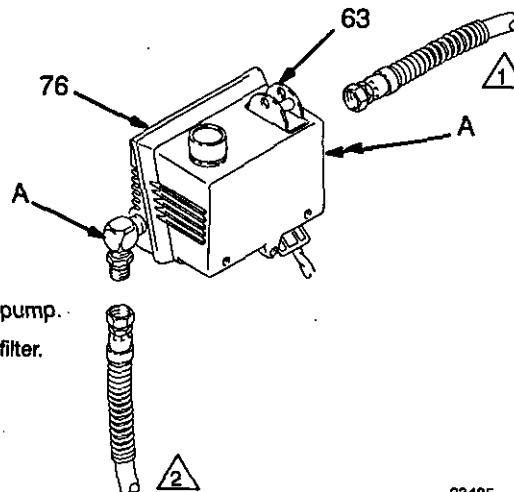

Fig. 22
1. Disconnect both hoses at the pressure control while holding the fitting or elbow (A) firmly. See the **CAUTION**, below. Note the original location of each hose to be sure you reassemble them correctly at the end of this procedure. See Fig. 22.